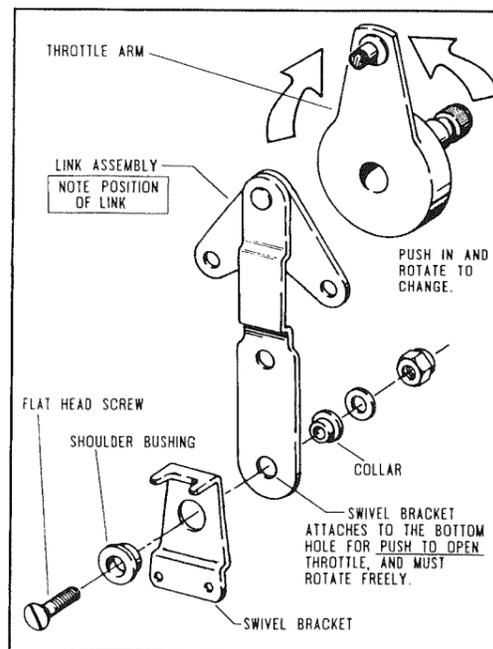

Figure 4 Push-to-open configuration
The throttle lever may be factory-set for “push” to open throttle. Refer to Figure 4. If you find it necessary to change to “pull” to open throttle, proceed as follows:
4. Remove the two(2) hex head screws at the link assembly, and remove the link. Make sure the shift arm does not change notch positions.
7. Attach the swivel bracket in the proper hole. See Figures 4 and 5 for proper location.